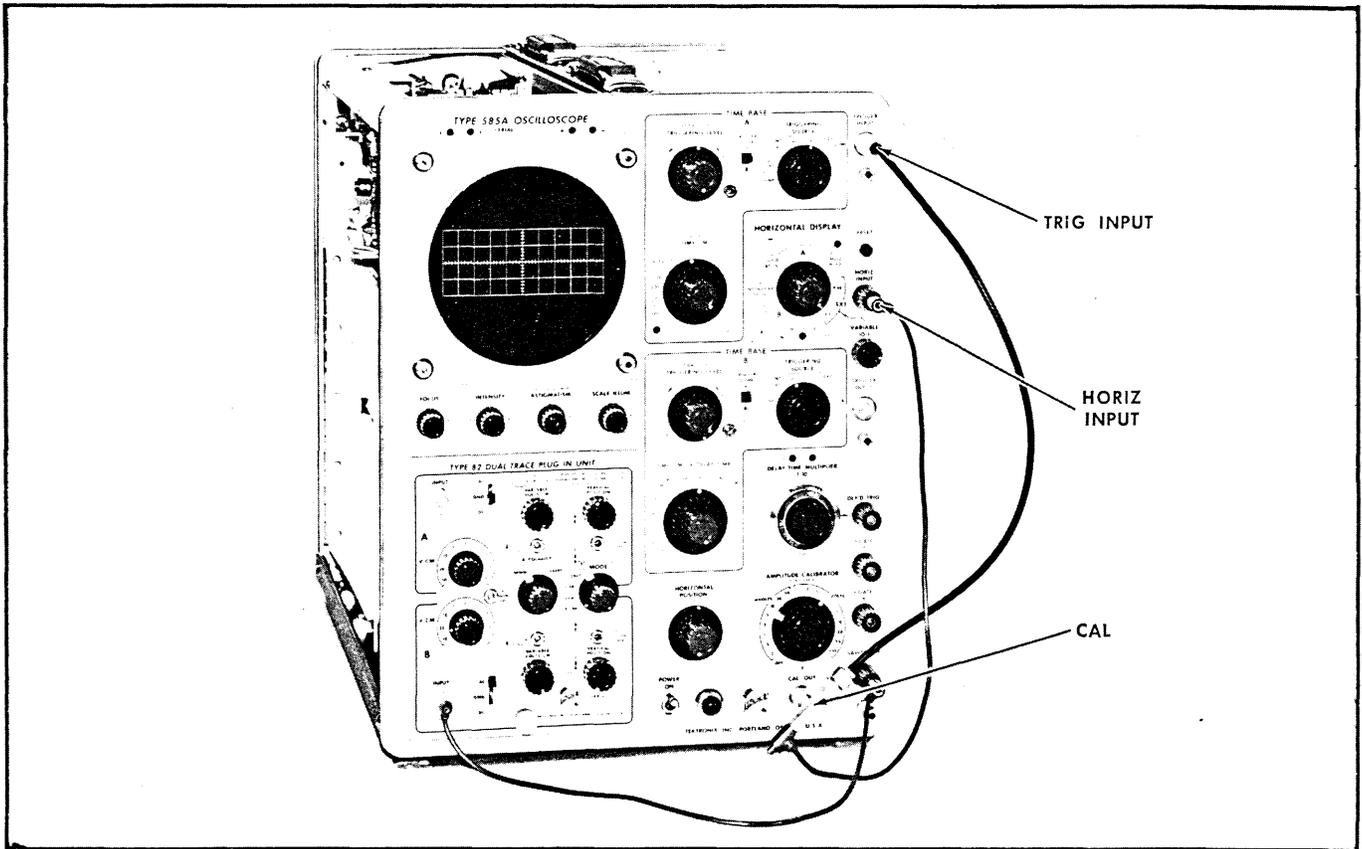

Fig. 6-34. Equipment setup for steps 42 through 44.
a. Equipment setup is shown in Fig. 6-34.